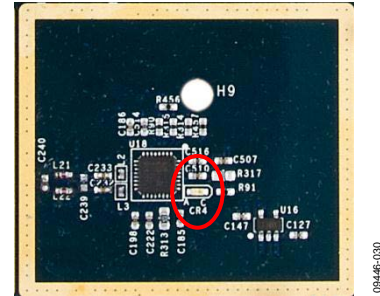

Figure 30. ADF4351 Placement
A photo of the **ADF4351** placement is shown in Figure 30. The input to the **ADF4351** is the 26.0 MHz output from the second **ADF4002** (2) PLL. The **ADF4351** has an integrated VCO and can produce outputs from 35 MHz to 4400 MHz. The primary output of the **ADF4351** is routed to the Rx passive mixer (LO2); however, it is configured as an open on the printed circuit board (PCB). The auxiliary output of the **ADF4351** is routed to the Tx quadrature modulator. When the **ADF4351** is locked, CR4 is illuminated.